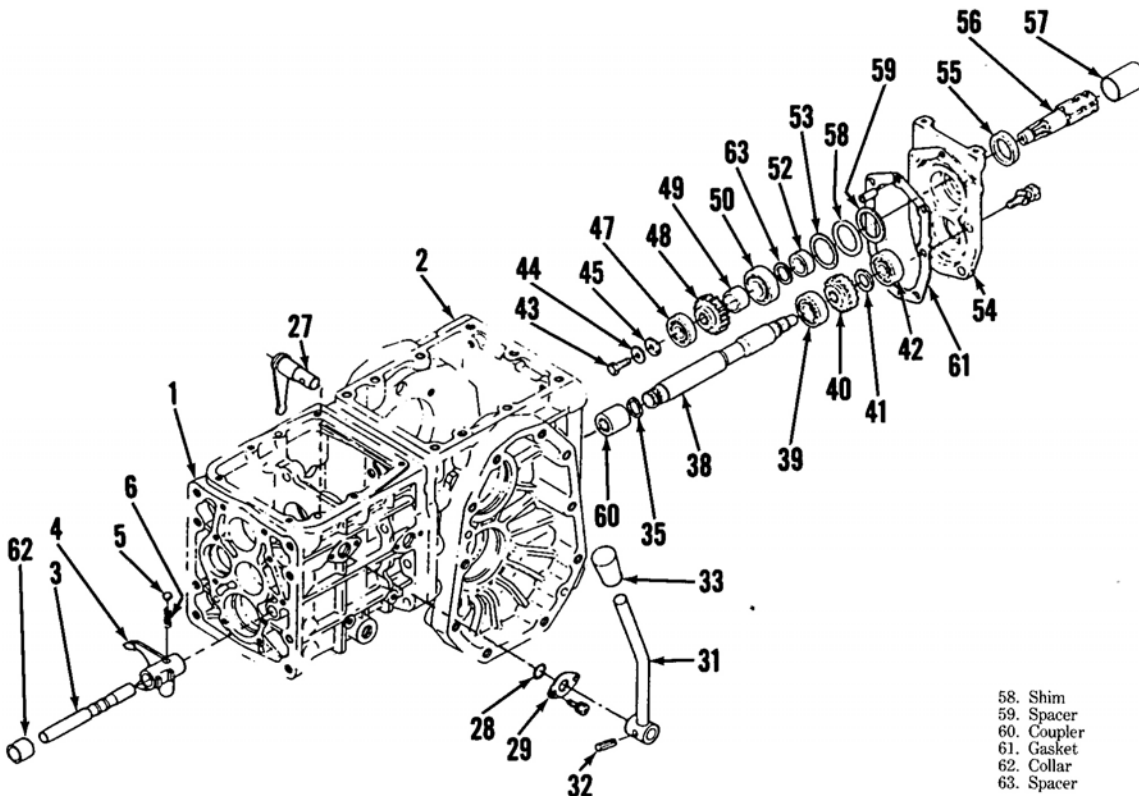

Fig. 89— Exploded view of pto components used on Models B5100D and B5100E. For identification of parts, refer to legend in Fig. 88 except for the following.
89. **R&R AND OVERHAUL.** Service to pto components located in gear transmission is outlined in paragraphs 73 and 74. Pto select linkage components are serviced with reference to Fig. 89 on Models B5100D and B5100E and Fig. 90 on Models B6100D, B6100E and B7100D after removal of needed gear transmission components to allow access to shift components.